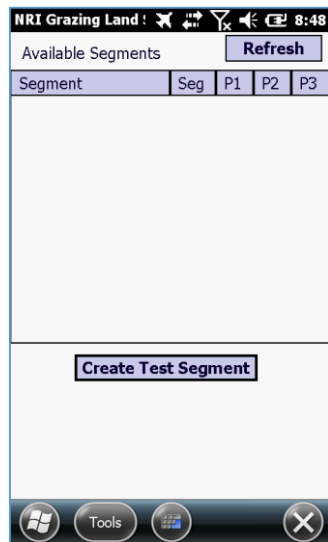

Figure 2. Select Create Test Segment
2. To create a training or special use segment, tap on the **Create Test Segment** button (fig. 2).